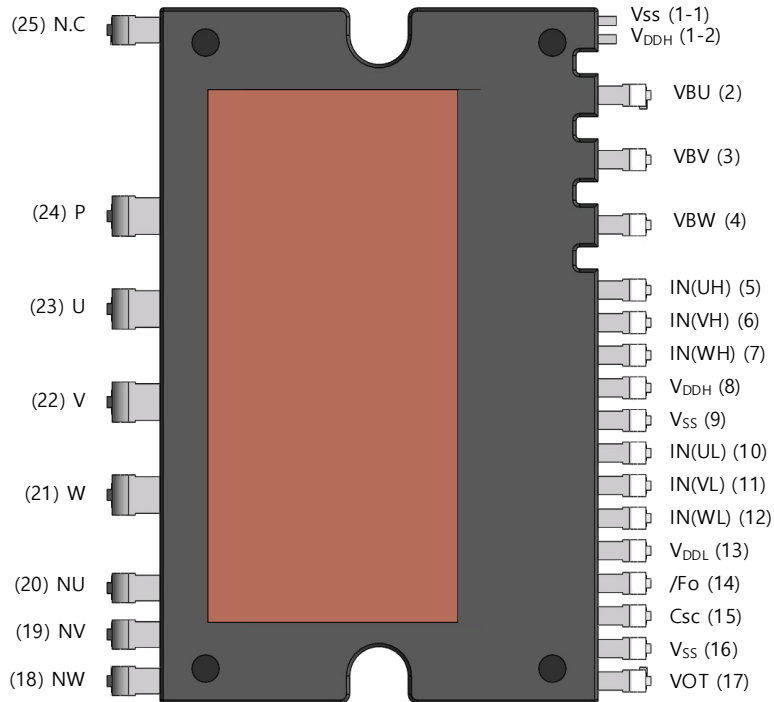

Figure 2. Pin Configuration – Top View
2. For the measurement point of case temperature (Tc), please refer to Figure 2.